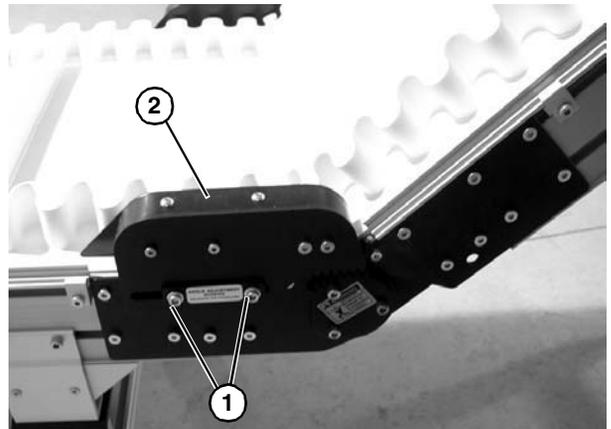

Figure 17
3. If equipped with a lower knuckle, remove screws (Figure 17, item 1) and remove lower knuckle return roller assembly (Figure 17, item 2) on both sides of conveyor, note the position of the meshing teeth.